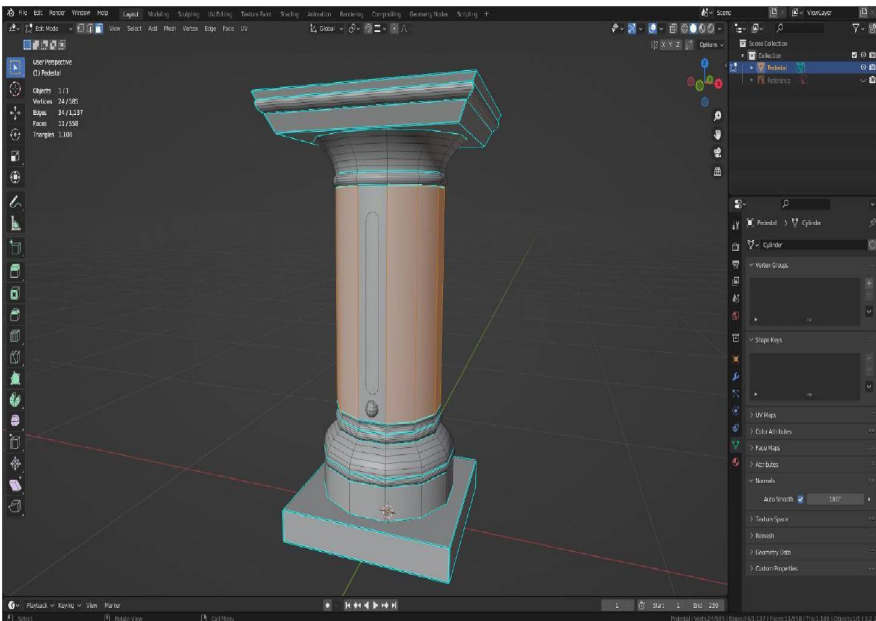

Figure 4.32: Core face loop of Pedestal selected, except for the center front face
19. Then, pressing and holding Shift, right-click the face underneath the hemispheres deselecting it and leaving the rest of the pedestal's geometry unselected as shown in *Figure 4.32*: